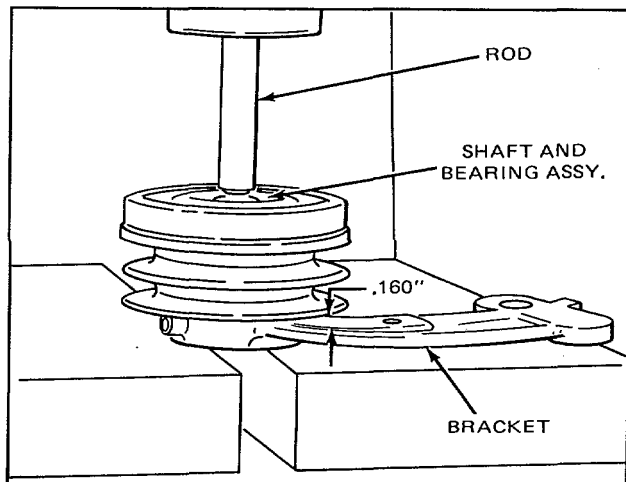

Figure 4. Installing Shaft and Bearing Assembly and Pulley in Bracket
2. With a short rod, apply pressure on the shaft only (Fig. 4) and press the shaft and bearing assembly with the pulley into the idler pulley bracket. The distance between the outer edge of the pulley and the bracket must be 0.160 inch.